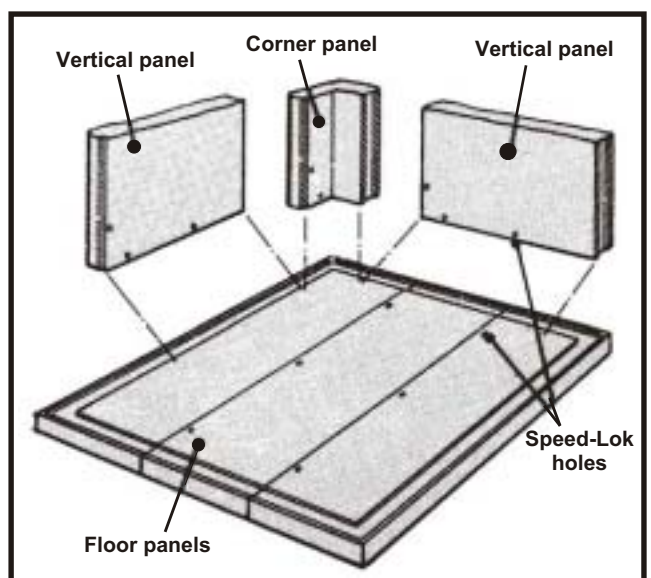

Fig. 14
- B. Begin by erecting the 12" x12" vertical corner panel nearest the critical area. Note that the Speed-Lok holes must always be on the left-hand side when facing the interior of the panel. See Fig. 14.